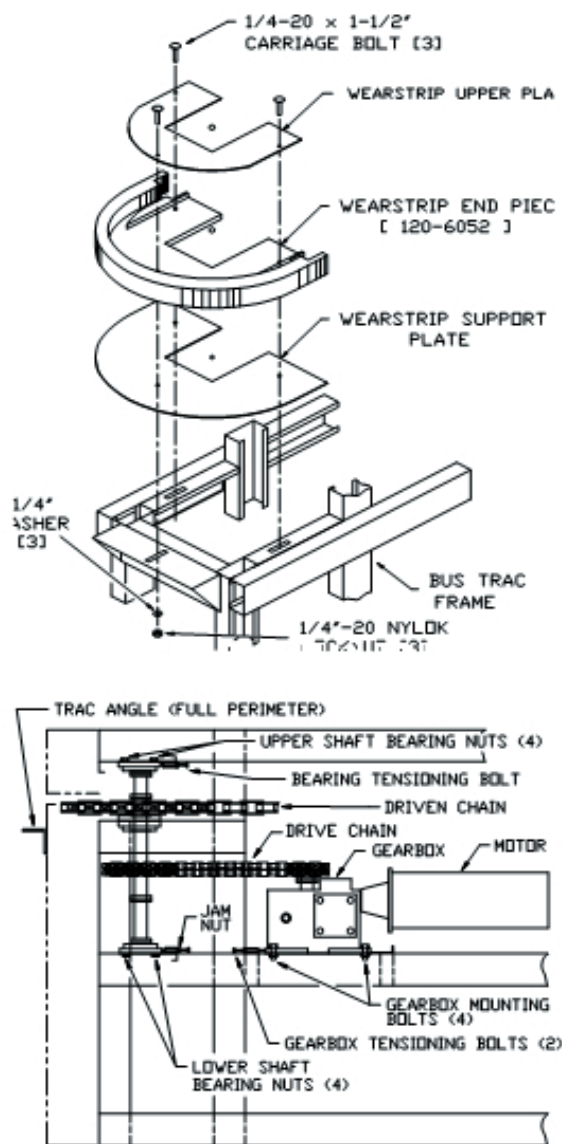

Fig. 1
- Interim tension can be maintained without removing any offset links. To do this, move the shafts outward as follows: [Refer to fig. 1]